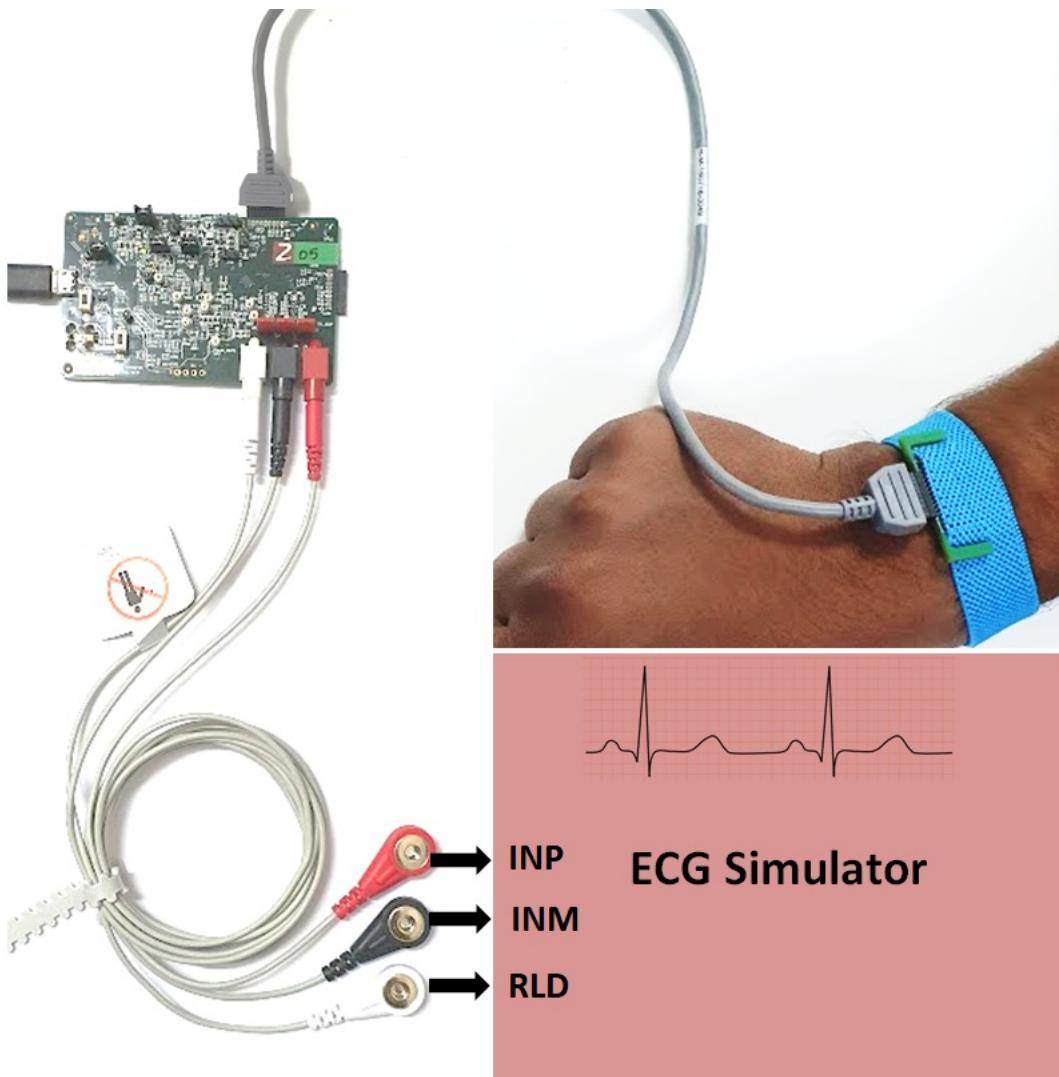

Figure 8. PPG sensor board and ECG cable interaction to the ECG Simulator for acquiring PPG and ECG signals
- c. Place the sensor side of the PPG sensor board on the wrist and tie it snugly. Figure 8 shows the sensor board being held with a velcro strap.